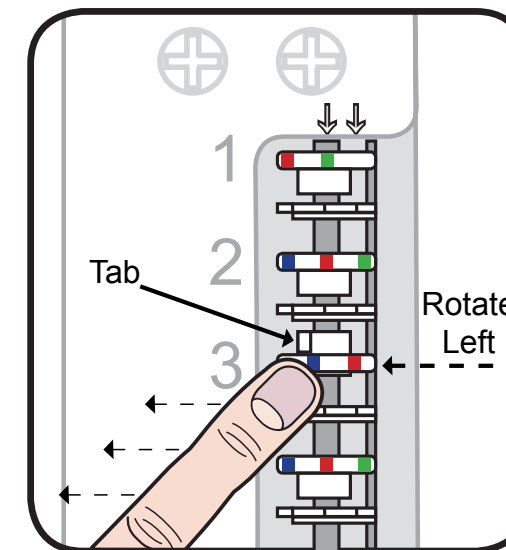
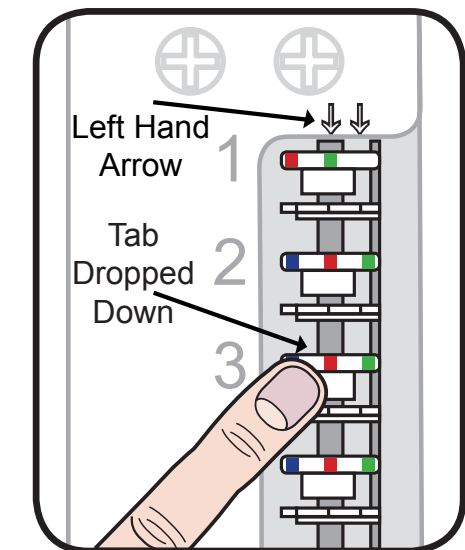

Fig.9
Fig.10
6. With the selected marker in position the inner gear can be released. The tab of the inner gear will still be visible (as per fig.9) – using your finger rotate the coding disk around to the left / clockwise until you see the tab of the inner gear drop down into the cut-out of the coding disk (as per fig.10). Once the tab has dropped down rotate the handle and you should see that the marker you have set is in alignment with the left hand arrow.